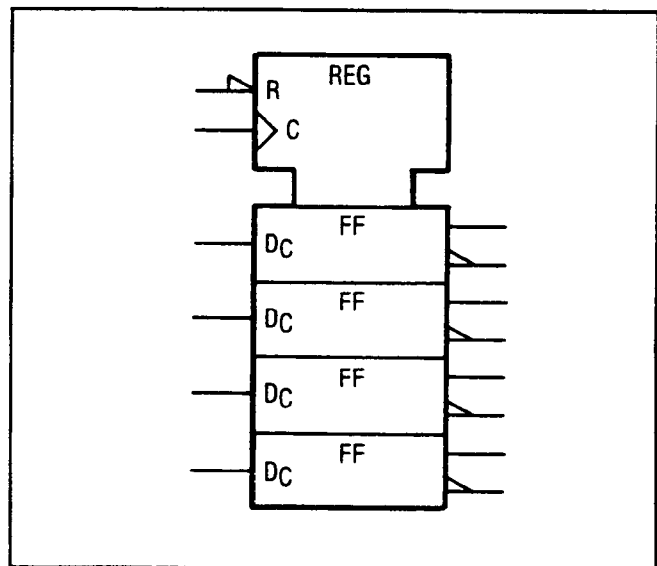

Figure 8-18. Quad D-Type Latch
Quad D-Type Latch. The register control block illustrates a quad D-type latch (see Figure 8-18). There is a common active-low reset (R), and a common edge triggered control input (C). Since there is only one dependency relationship, the controlling input is not numbered and the controlled functions (D) are subscripted with a C.